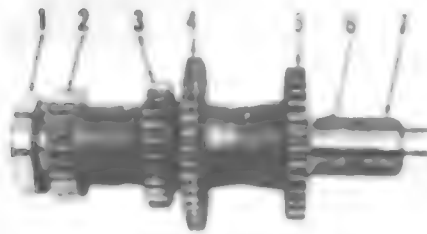

Fig. 80 - View of the countershaft with gears properly installed.
Remove the internal snap ring from rear of countershaft and snap ring (6 - Fig. 80) from front of countershaft. Using a brass drift, tap the countershaft rearward and remove the gears and shaft. See Fig. 72 for long countershaft (40) used on TA equipped models.